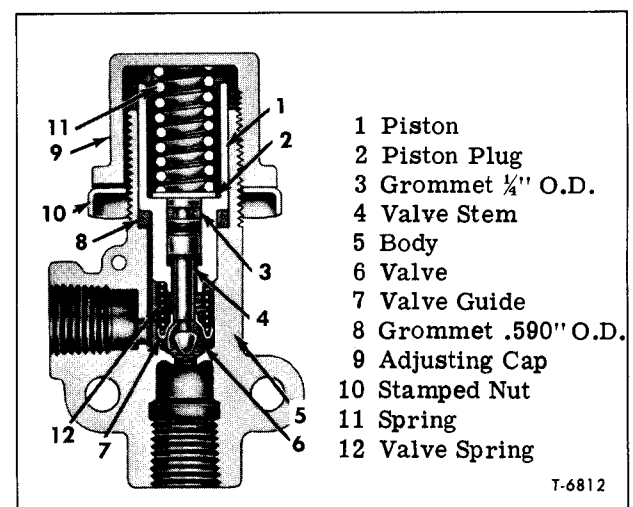

Figure 5—Pressure Regulating Valve
Pressure regulating valve (fig. 5) is mounted on frame near air tank. This valve serves two purposes. One purpose is to prevent air pressure from entering air suspension system until pressure in the air system reaches 65 psi. This provides a rapid build-up of air pressure for operation of brake system. When brake system air pressure exceeds 65 psi, the pressure regulating valve opens and allows pressure to build up in air suspension system. The second purpose of the valve is to prevent loss of brake system air pressure below 65 psi due to leakage in air suspension system.
Refer to figure 5 for a detailed cross section of valve.
NOTE: Key numbers in following text refer to figure 5. The adjusting cap (9) controls the pressure at which the valve is unseated. Setting may be increased or decreased by turning cap.
1. Back off lock nut (10).
2. Turn cap (9) clockwise to increase pressure, or counterclockwise to decrease pressure.
3. Tighten lock nut (10) when correct adjustment is obtained.
NOTE: Key numbers in following text refer to figure 5.